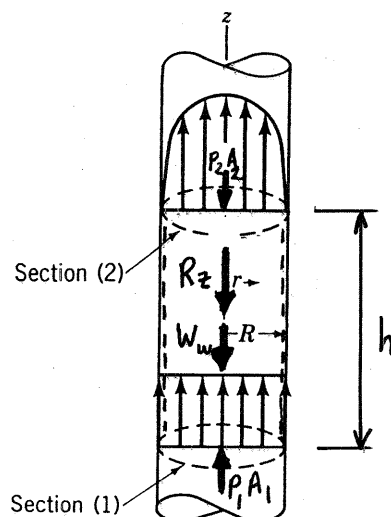

FIGURE P5.42
5.42 Water flows vertically upward in a circular cross section pipe as shown in Fig. P5.42. At section (1), the velocity profile over the cross section area is uniform. At section (2), the velocity profile is